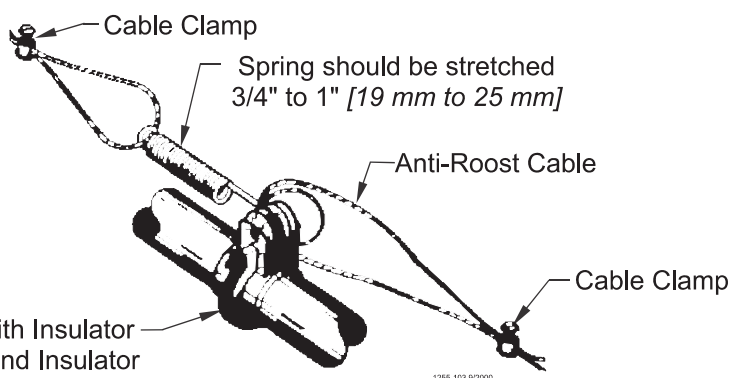

Figure 41. Anti-Roost Cable Mid-Line Connection
4. Attach a spring in the center groove at the second anti-roost bracket and cut the cable at this point. See **Figure 41**.
5. Thread the ends of the cable through the end of the spring. Pull the cable tight so that there is 3/4" to 1" [20 to 25 mm] of stretch in the spring. Clamp the cable to form a loop and cut off any excess. See **Figure 41**.
6. Attach the cable to the insulator. For best results, make a double loop around the anti-roost insulator in the center groove of the insulator and fasten with a 1/16" cable clamp as shown in **Figure 41**.